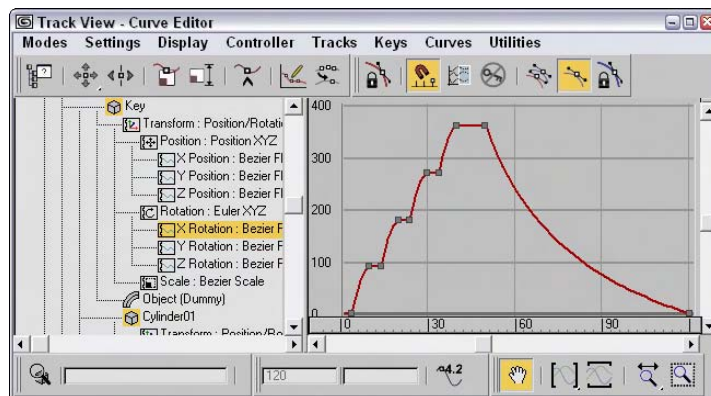

Figure 33-18: The rotation of the Wind-up Key object
3. Open the Track View–Curve Editor, and navigate down to the Wind-up Key's X Rotation track. Take a moment to observe the shape of the curve, shown in Figure 33-18.